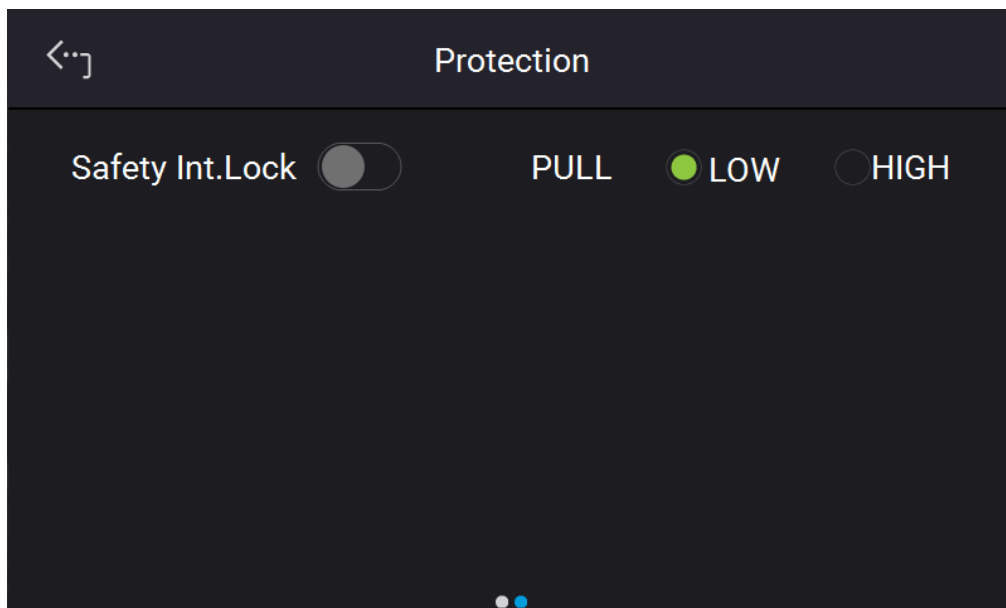

Figure 3-24
1. Use the touch button to set Safety Int. Lock mode to disable or enable as Figure 3-24 shows.